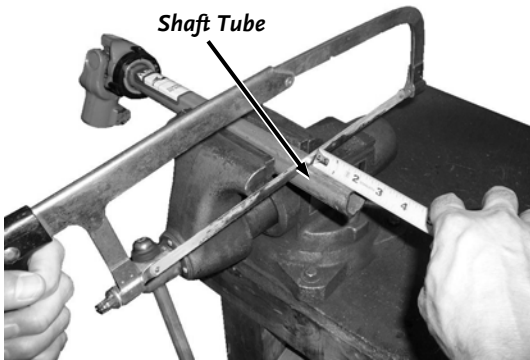

Figure 19
4. Measure and cut each Shaft Tubes to the required length using the hacksaw (**Figure 19**).